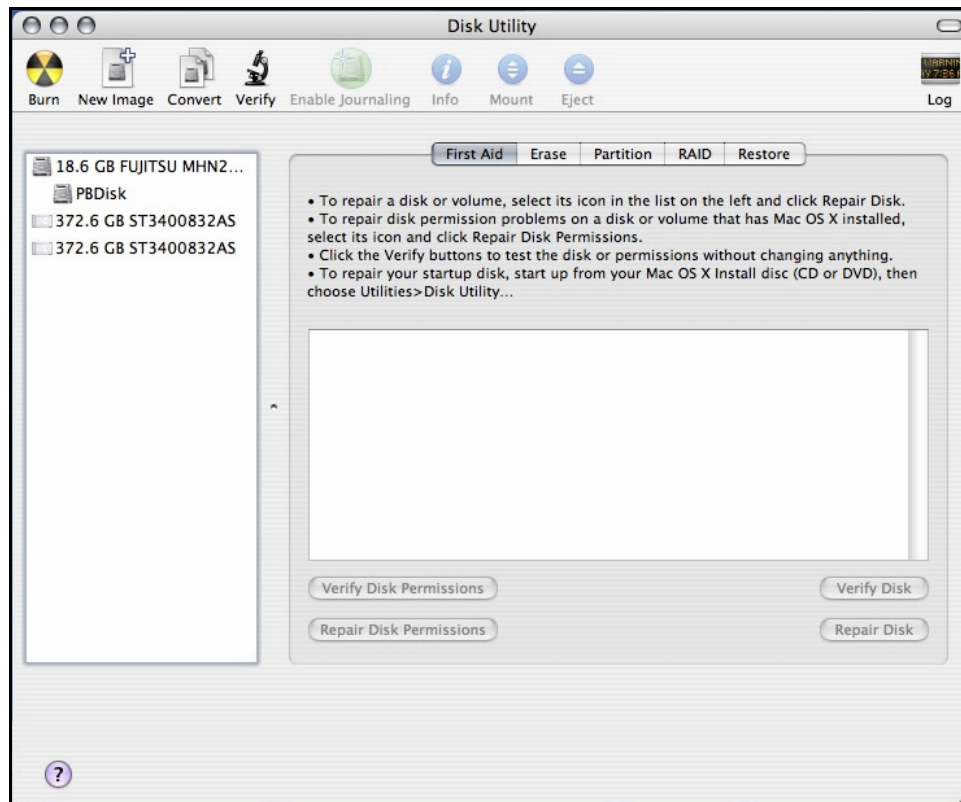

Figure 13: Example Hard Drive Listing
3. Review the list of hard drives show within *Disk Utility* (see Figure 13). Drives currently in use should have a list of volume names below it. New, unformatted drives typically have no volume names listed. Carefully select the drive you wish to format. **Note:** Some versions of Apple *Disk Utility* incorrectly display Serial ATA hard drives as having the Connection Type of “Slave.” Serial ATA hard drives are all in fact “Master” drives. Later versions of Apple *Disk Utility* correctly display Serial ATA hard drives as “Master.” If your Serial ATA hard disk is listed as “Slave,” don’t worry, its performance will not be affected.
3. Review the list of hard drives show within *Disk Utility* (see Figure 13). Drives currently in use should have a list of volume names below it. New, unformatted drives typically have no volume names listed.